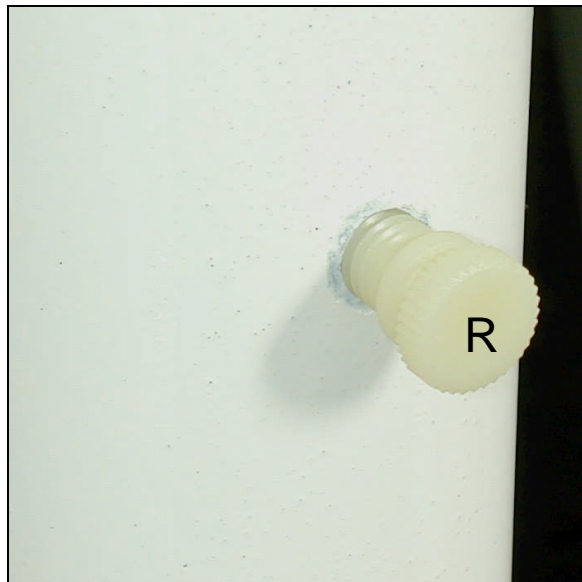

Figure 14
There is a nylon thumbscrew (R) in the pier (Figure 14). Tightening this thumbscrew will increase the resistance to azimuth movement of the telescope.